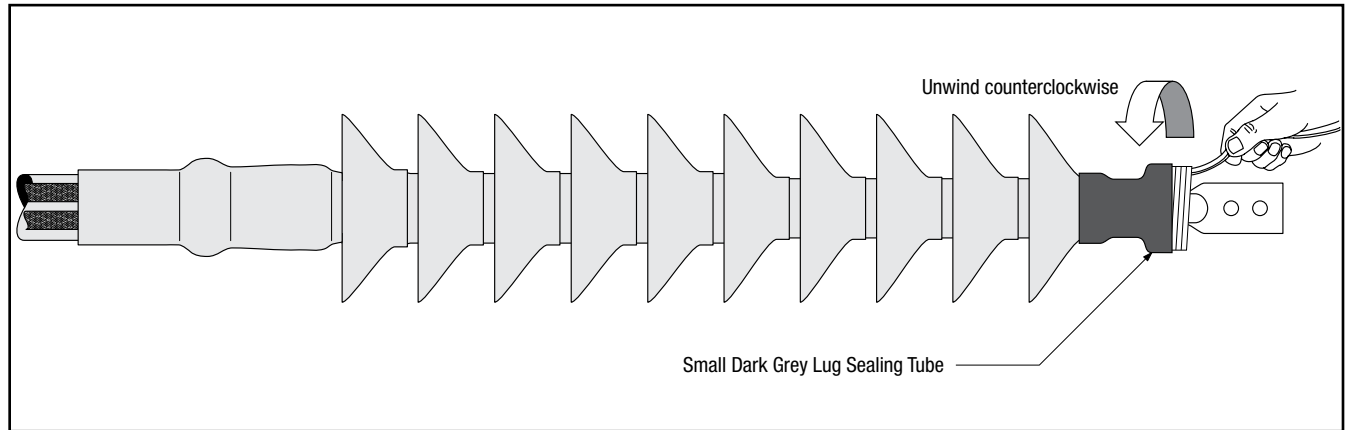

Figure 17
- 6.1 Slide the small dark grey lug sealing tube onto the lug/termination, as shown. Start to shrink the tube near the top of the last skirt and onto the lug barrel. If the tube overlaps the lug pad or is not tight to the lug barrel, carefully trim the tube just past (1/4" or 6 mm) the Scotch® Rubber Mastic Tape 2228 sealing tape. A roll of Scotch® Self-fusing Silicone Rubber Electrical Tape 70 is provided to cover the edge of the trimmed tube, apply with moderate tension, stretching only enough to conform to the lug barrel and tube. (Figure 17)